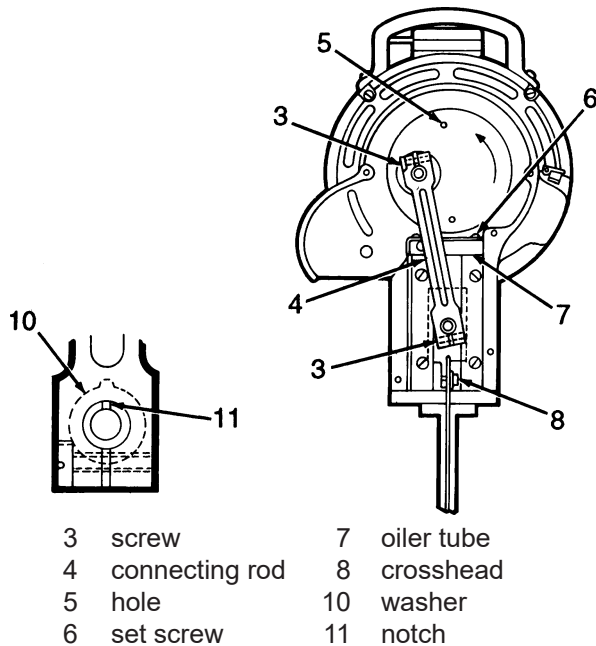

Figure 13. Freeing Frozen Guides
3. Loosen the screws (Figure 13, 3) and remove the connecting rod (Figure 13, 4).
4. Insert the drift pin in the hole (Figure 13, 5) in the crank and tap with a light hammer in the direction of the arrow. This will loosen the crank.
6. Loosen the set screw (Figure 13, 6) using a No. 564 Allen key (.078 hex) and remove the oiler tube (Figure 13, 7).
7. Remove the crosshead (Figure 13, 8) from the guides.
11. Oil the bearing surface of the guides, insert the crosshead, and reassemble the machine. Ensure the washer (Figure 13, 10) is in place between the connecting rod and crosshead.
The wrist pin must be installed with the notch (Figure 13, 11) at top center. If the wrist pin is not installed correctly, the flow of oil to the wrist pin bearing will be cut off.